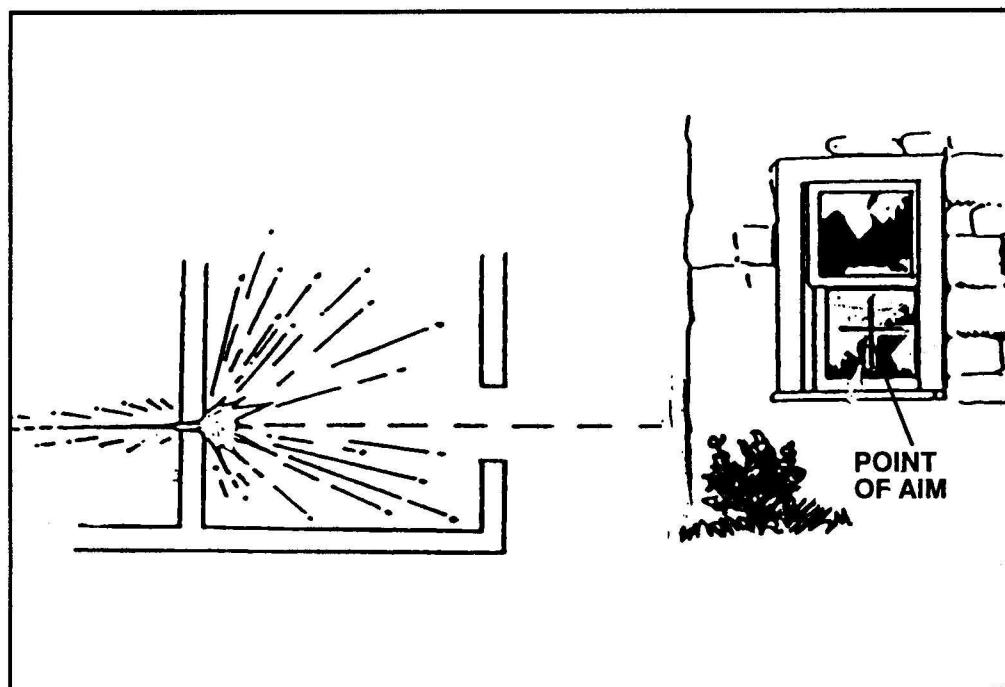

Figure 8-1. Aim point for 40-mm HEDP.
(1) If projected into an interior room, the 40-mm HEDP can penetrate all interior partition-type walls. It splinters plywood and plaster walls, making a hole large enough to fire a rifle through. It is better to have HEDP rounds pass into a room and explode on a far wall, even though much of the round's energy is wasted penetrating the back wall (see Figure 8-1). The fragmentation produced in the room causes more casualties than the high-explosive jet formed by the shaped charge.
(2) The fragments from the HEDP round do not reliably penetrate interior walls. They are also stopped by office furniture, sandbags, helmets, and protective vests (flak jackets). The M203 dual-purpose weapon has the inherent accuracy to place grenades into windows at 125 meters and bunker apertures at 50 meters. These ranges are significantly reduced as the angle of obliquity increases. Combat experience shows that M203 gunners cannot consistently hit windows at 50 meters when forced to aim and fire quickly.